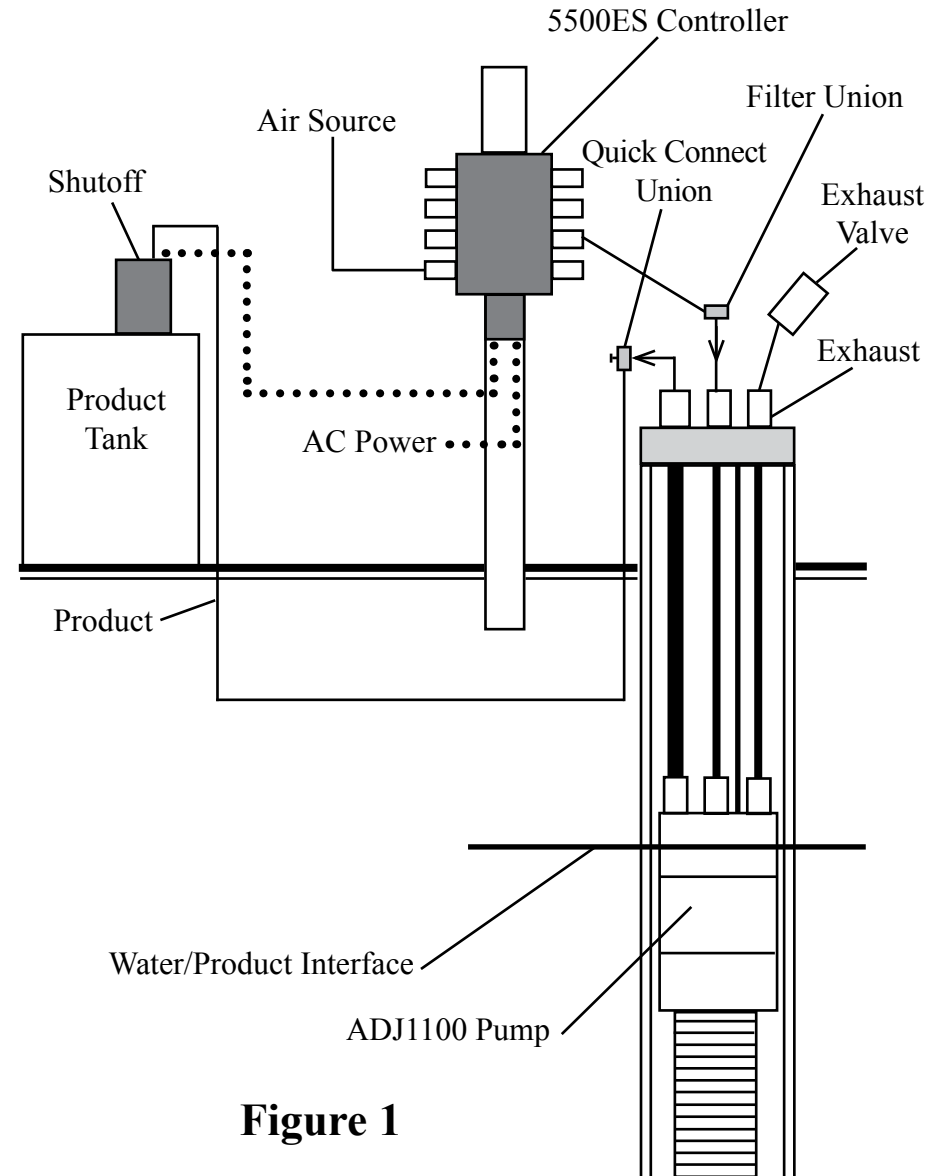
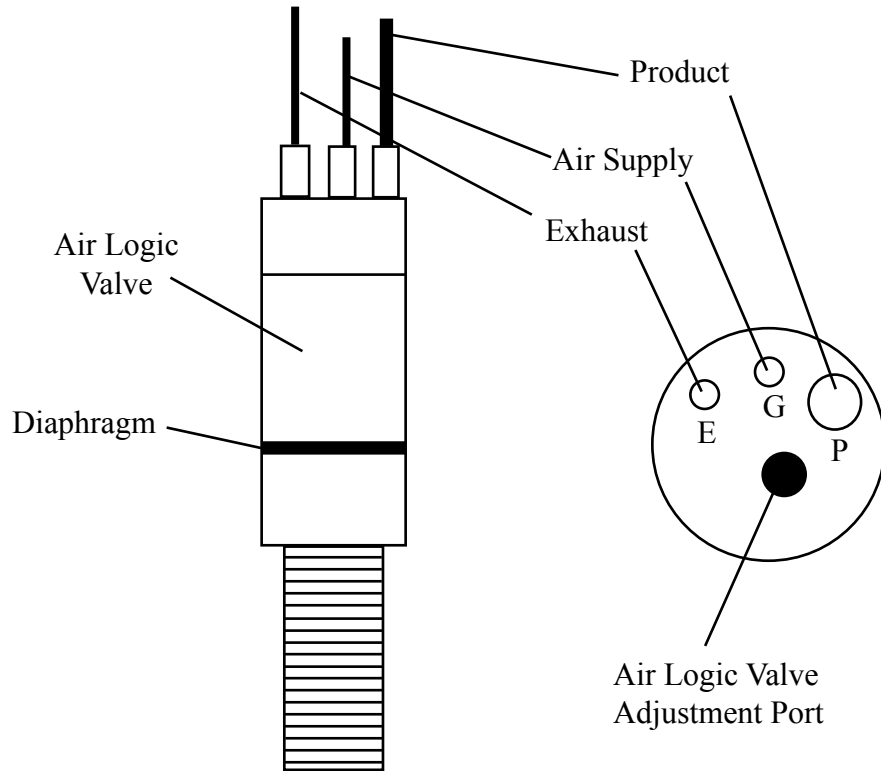

Figure 1
Figure 2
The system (Figure 1) relates to sinking DNAPL recovery in wells four inches in diameter and larger. This system includes: an intrinsically safe ADJ1100 pneumatic Smart Pump (Figure 2) which removes only the DNAPL to a sheen down to 200 feet deep; and a programmable Controller Model 5500ES which operates up to 16 pumps intermittently, records run time, and has a high level tank shutoff assembly.
STEP 7. Position the pump and well cap on the ground near the well. Cut a length of 3/8" OD air supply tubing to cover the distance from top of the well down to the bottom of the well, plus 5 feet. Slide enough tubing through the well cap to position the pump at the bottom of the well and attach the end of the tubing to the top of the pump tube fitting labeled "G" (Figure 2).
STEP 8. Cut a length of 1/2" OD product tubing same length as the air supply line. Install 1/2" OD product tubing through the well cap tube fitting labeled "P" (Figure 2). Slide enough tubing through the well cap and attach the end of the tubing to the top of the pump tube fitting labeled "P". **CAUTION:** Do not kink the tubing.